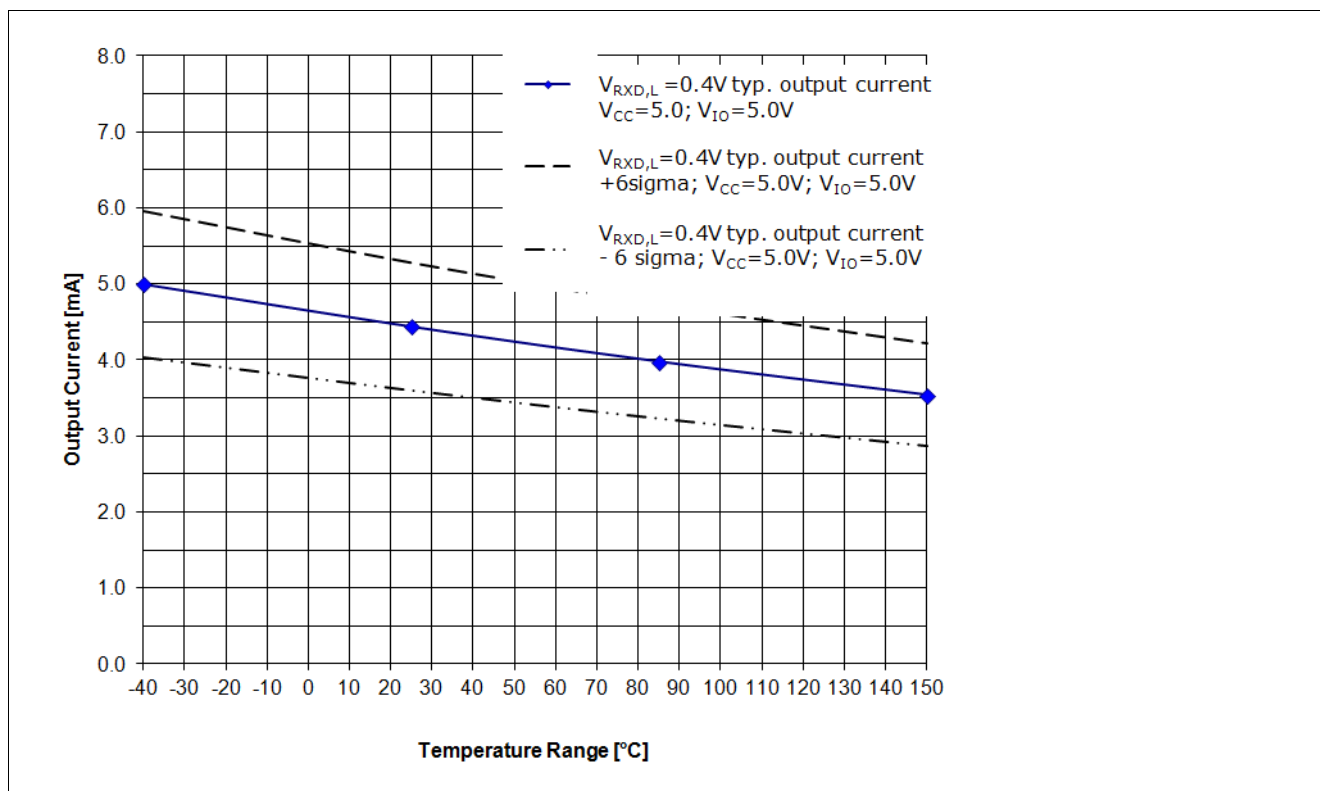
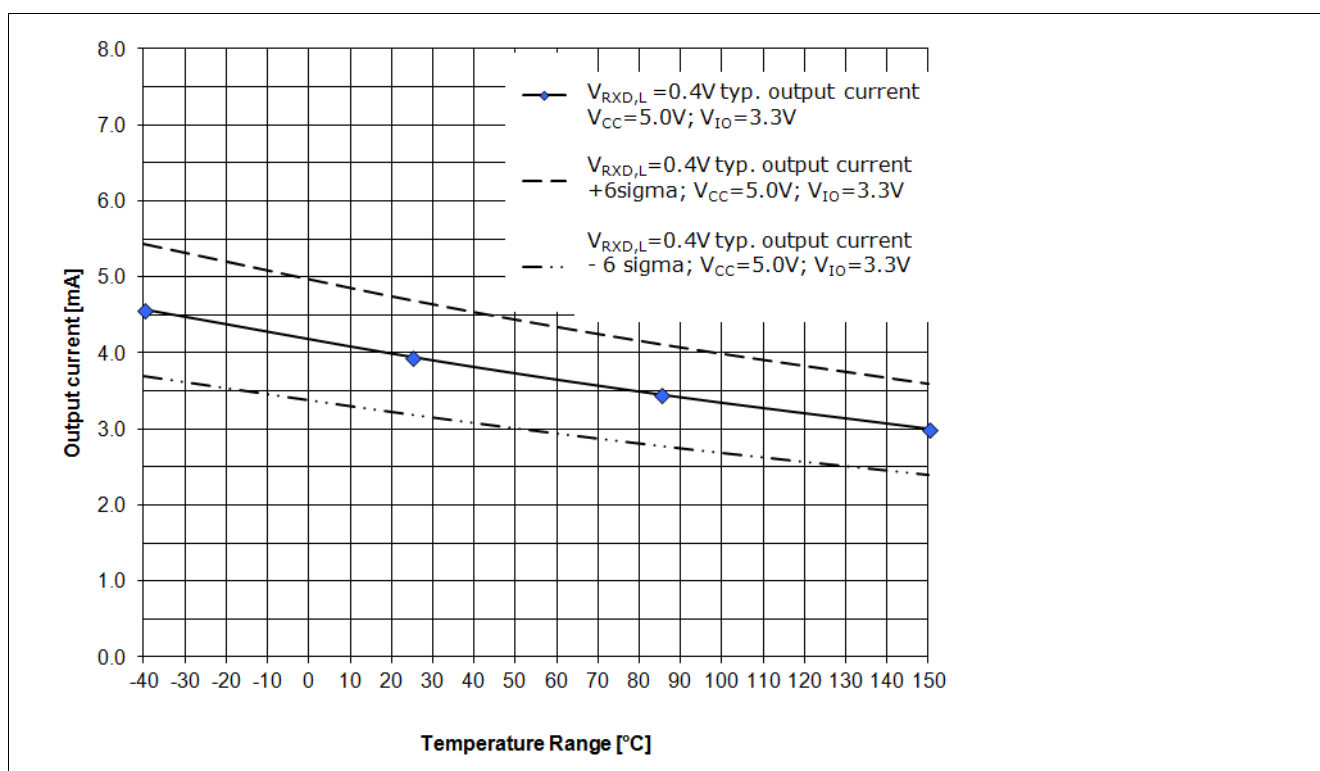

Figure 13 RxD Output driver capability for a logical "Low" signal $V_{RxD,H} = 0.4V$, $V_{CC} = 5.0V$, $V_{IO} = 5.0V$ ¹⁾
Figure 14 RxD Output driver capability for a logical "Low" signal $V_{RxD,H} = 0.4V$, $V_{CC} = 5.0V$, $V_{IO} = 3.3V$ ¹⁾
The diagram in **Figure 13** and the diagram in **Figure 14** show the current capability of the RxD output pin depended on the chip temperature T_J . **Figure 13** shows the current capability of the RxD output pin at a V_{IO} power supply of 5.0 V and **Figure 14** shows the current capability of the RxD output pin at a V_{IO} power supply of 3.3 V.
- The curve “ $V_{RxD,H} = 0.4$ V; **typ. output current**; $V_{CC} = 5.0$ V; $V_{IO} = 5.0$ V;” displays the typical output current at the RxD output pin of the TLE8250GVIO (see **Figure 13**).
- The curve " $V_{\text{RxD,H}} = 0.4 \text{ V}$; **typ. output current + 6 sigma**; $V_{\text{CC}} = 5.0 \text{ V}$; $V_{\text{IO}} = 5.0 \text{ V}$;" displays the expected maximum value of the output current at the RxD output pin (see Figure 13).
- The curve " $V_{\text{RxD,H}} = 0.4 \text{ V}$; **typ. output current - 6 sigma**; $V_{\text{CC}} = 5.0 \text{ V}$; $V_{\text{IO}} = 5.0 \text{ V}$;" displays the expected minimum value of the output current at the RxD output pin (see Figure 13).
- The curve " $V_{\text{RxD,H}} = 0.4 \text{ V}$; **typ. output current**; $V_{\text{CC}} = 5.0 \text{ V}$; $V_{\text{IO}} = 3.3 \text{ V}$;" displays the typical output current at the RxD output pin of the TLE8250GVIO (see Figure 14).
- The curve " $V_{\text{RxD,H}} = 0.4 \text{ V}$; **typ. output current + 6 sigma**; $V_{\text{CC}} = 5.0 \text{ V}$; $V_{\text{IO}} = 3.3 \text{ V}$;" displays the expected maximum value of the output current at the RxD output pin (see Figure 14).
- The curve " $V_{\text{RxD,H}} = 0.4 \text{ V}$; **typ. output current - 6 sigma**; $V_{\text{CC}} = 5.0 \text{ V}$; $V_{\text{IO}} = 3.3 \text{ V}$;" displays the expected minimum value of the output current at the RxD output pin (see Figure 14).